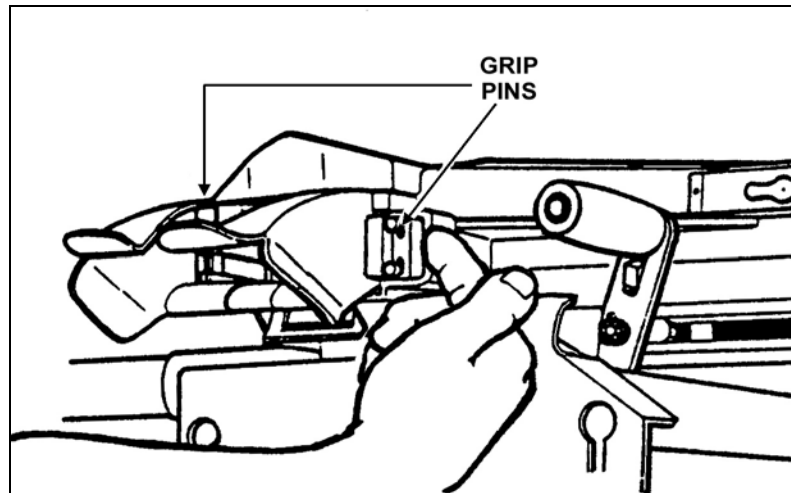

Figure 3-13. Feed throat installation.
- (3) Relax pressure on the spring-loaded grip pins so they will snap into place (Figure 3-13, page 3-9).